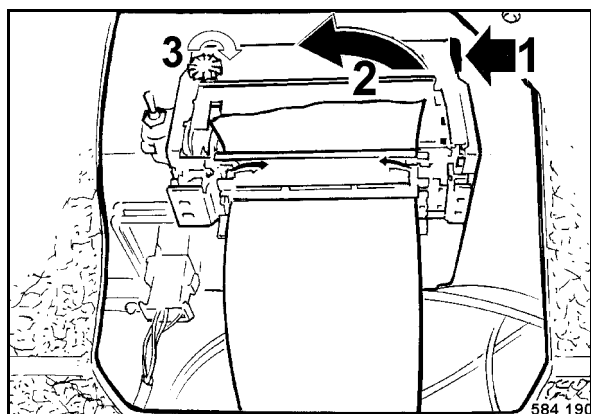

Fig. 106
- Lift the tongue at point 1 (Fig. 106) and take the printer ribbon (2) out of the printer.
- Insert the new printer ribbon into the printer, then press in the tongue (1) on the right.
- Tension the printer ribbon by turning the rotary button (3) in direction of arrow.